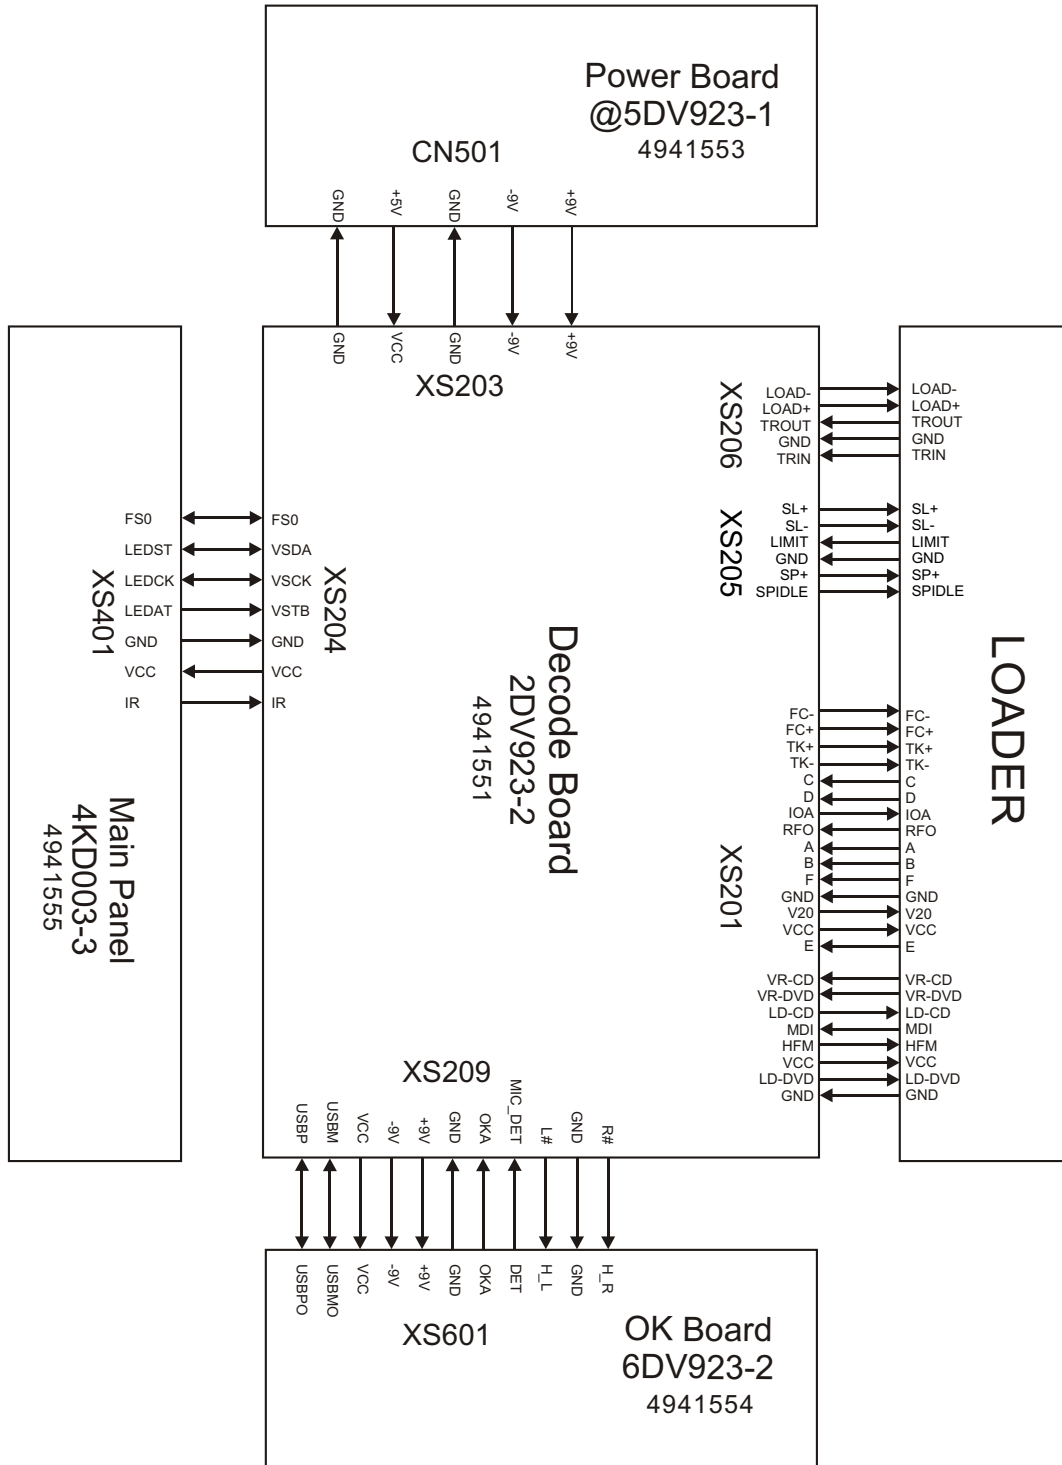

Figure 3.1.1 Overall Wiring Diagram of DV923DH(RU)
Overall wiring diagram of DV923HD(RU) player is shown in figure 3.1.1.